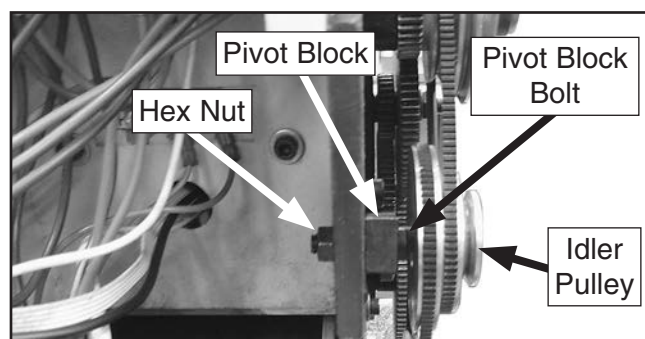

Figure 138. Pivot block bolt and hex nut for idler pulley adjustment.
3. Using flat 10mm wrench provided with lathe, hold pivot block bolt shown in **Figure 138**, and loosen hex nut with 13mm wrench.